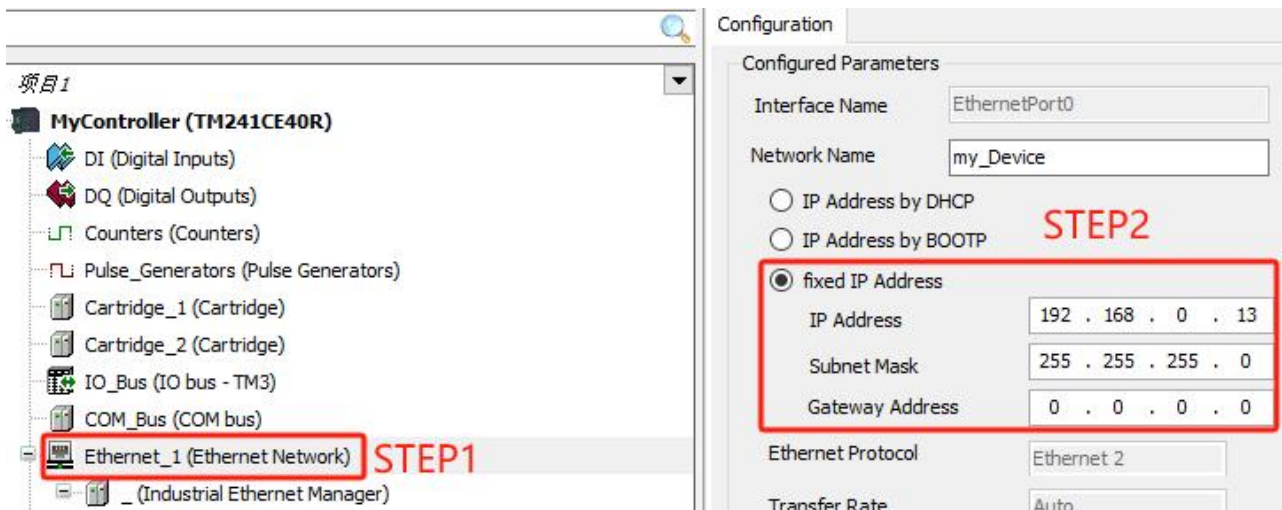

Figure 5-3-12
- As shown in Figure 5-3-12, click "Ethernet" to configure PLC parameters.